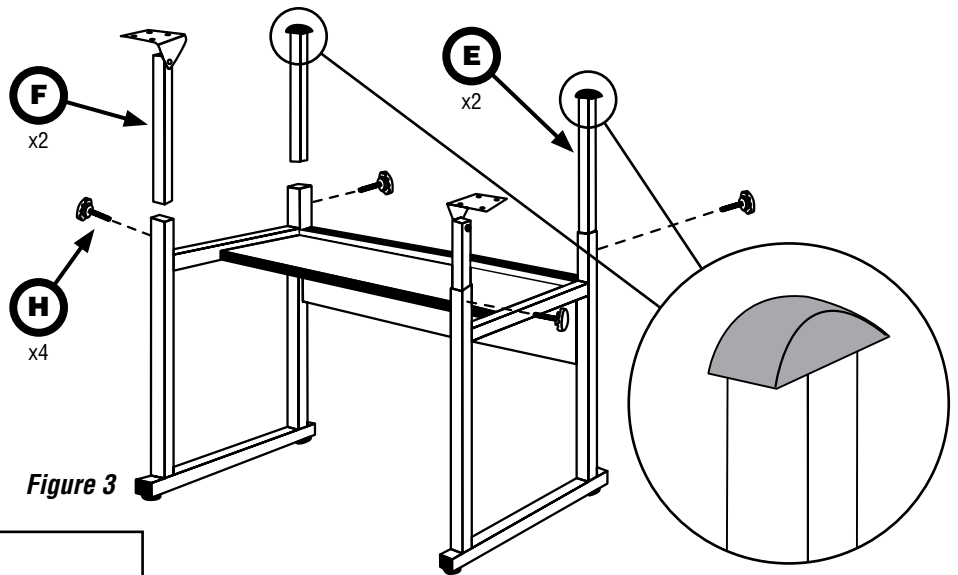

Figure 3
7 Insert two rear extension tubes (E) at rear of frame as shown in *Figure 3*. Curved black caps on tubes should be set into frame so inclines face front and back of frame. Carefully insert two front extension tubes (F) with attached brackets facing out. All four extension legs should be at their lowest position and locked with four height adjustment knobs (H). Set base aside.